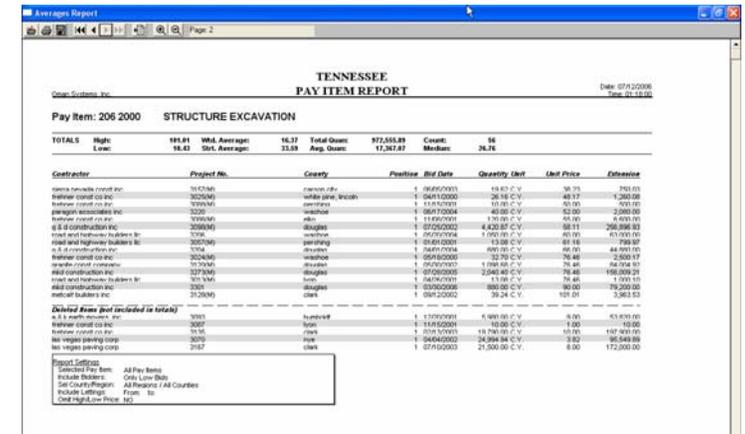

Figure 2.19
- Preview** This option allows you to preview and then print a report showing all the prices you have selected along with the averages shown on the screen. A sample report is shown in Figure 2.19.